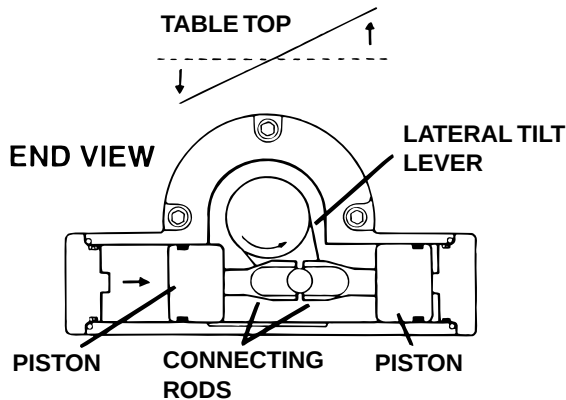

Figure 1-12. Lateral Tilt Cylinder Assembly
3. Lateral Tilt Assembly - The lateral tilt assembly consists of two cylinders, pistons and connecting rods. The connecting rods attach to the lateral tilt lever which connects to the table side frames. When hydraulic fluid is pumped into one cylinder, the piston and connecting rod pushes the lateral tilt lever which tilts the table top to one side. To tilt the table top in the opposite direction, fluid is pumped into the opposite cylinder. See figure 1-12.